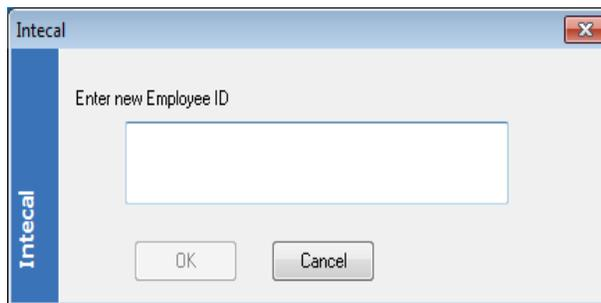

Figure 2-4: New Employee ID window
3. When the new *Employee ID* window opens (Figure 2-4), enter a unique number and click on OK.